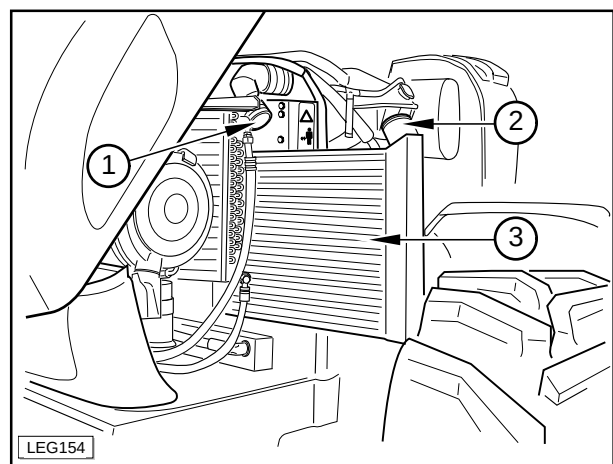

Fig.5-16
- 3 - Remove the screws 3 and 4 (Fig. 5-16).
- 4 - Loosen the clamp 1 on the sleeve 2 of the engine air conduit (Fig. 5-16).
- 5 - Detach the sleeve 2 of the intercooler (3 - Fig. 5-16). Protect the holes (1) on the sleeve and (2) on the intercooler to avoid penetration of dust or foreign matters (Fig. 5-16).
- 8 - Repeat the operations 1 to 7 in reverse order. Remove all caps from the holes on the sleeves (1 - Fig. 5-16) and on the intercooler (2 - Fig. 5-16).